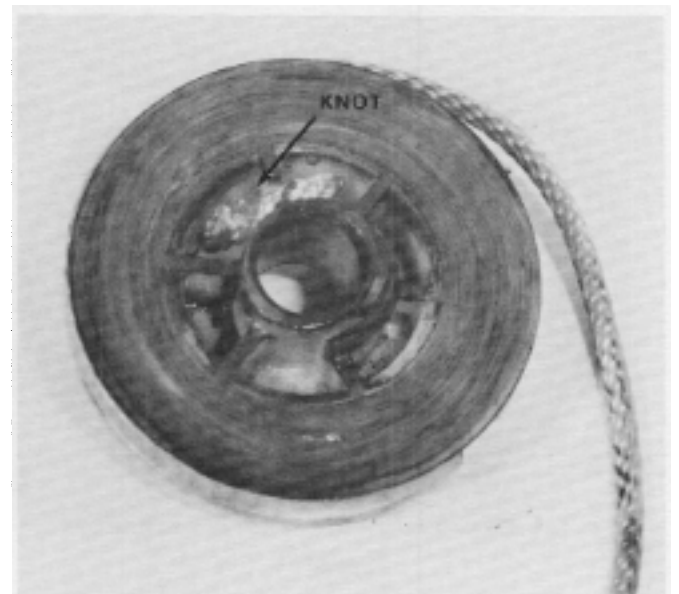

Figure 69
2. Insert one end of the recoil rope into the appropriate hole in the recoil reel. Tie a single loop knot in that end of the rope and pull it down into the hole making sure that no portion of the rope protrudes out of the recess. See Figure 69.